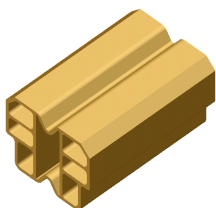

Figure 34:
- Install head bumpers into head as shown below (Figure 34 & 35).